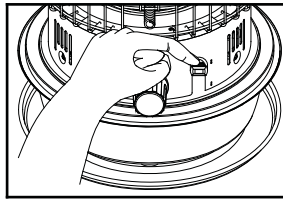

Fig. 10
- Push the ignition lever (Fig. 10) to bring the glowing igniter into contact with the wick. This will cause ignition to occur.